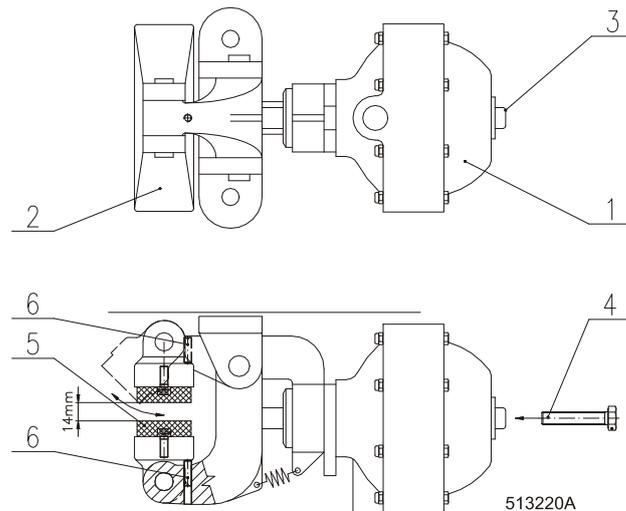

Fig.5.12. Brake
2. Remove an air filter, fig.5.12. pos.3 on the brake body (1).
3. Put the bolt M10x50 (4) (part of the supply) into the opening in the brake body, you will brake off the brake shoes (2) after screwing it manually.
5. Tilt the brake shoes approximately by 45° and replace the brake block (5) on both brake shoes.
6. Stretch the brake shoes on distance approx. 14 mm / 0,55" turning the screw (4) and set mutual parallelism of braking area of brake shoes by means of stop screws of brake shoes (6). Secure the screws (6) against releasing using the adhesive intended for such purpose. (e.g. LOCTITE 243).
8. Unscrew the bolt (4) and install back an air filter (3).